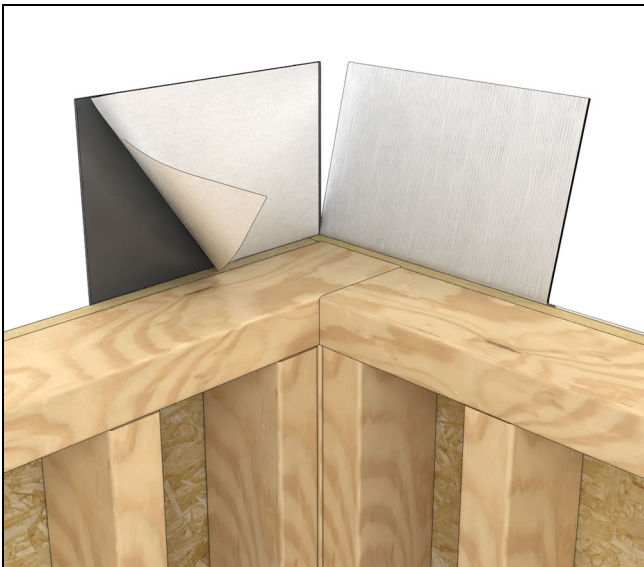
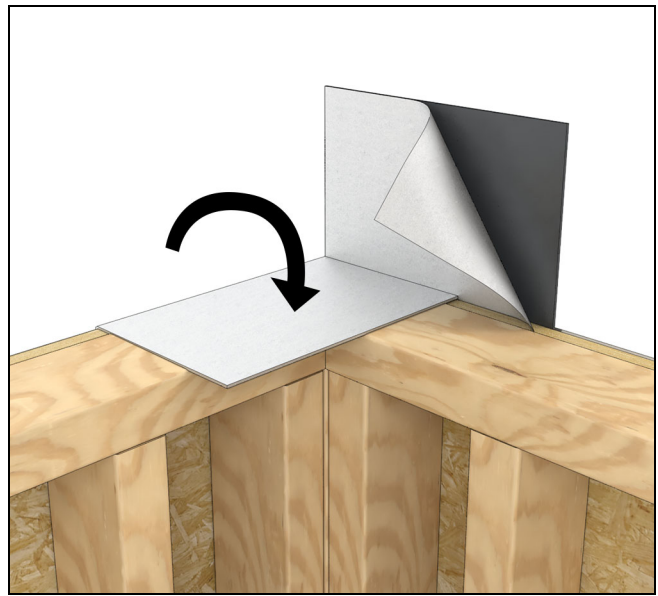
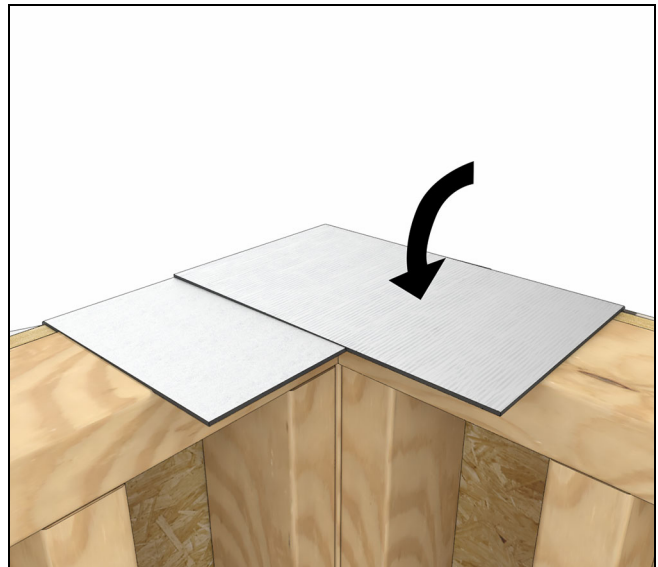

Figure 19
Figure 20
Figure 21
5. Remove the backing from the top section on one side and adhere to the opening. Then repeat on the opposite side. See Figure 19, Figure 20, and Figure 21.